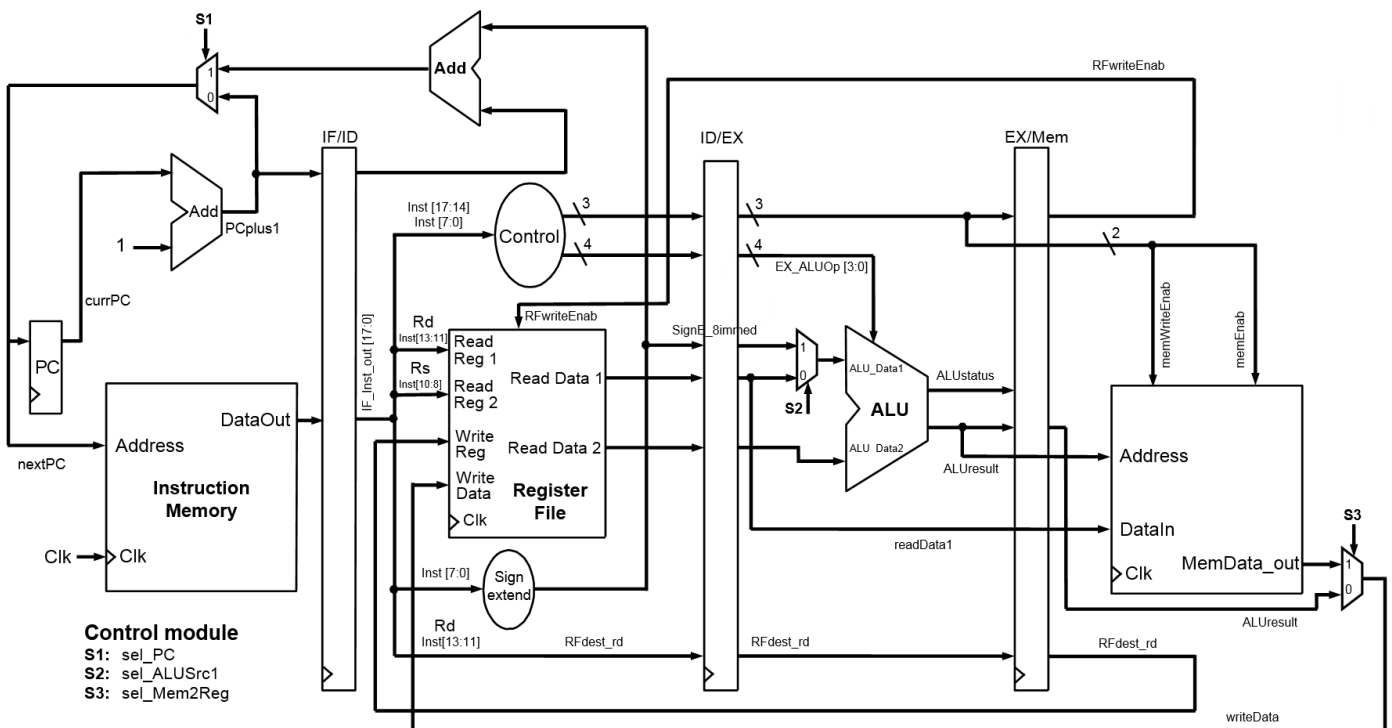

Figure 1: uP16 Block Diagram
The uP16 is a 16-bit processor, and in Lab 4, a basic 5-stage pipelined implementation without data forwarding is introduced. It supports only full-word memory accesses (byte-level accesses are not supported). The Program Counter (PC) is 16 bits wide and holds the address of the next instruction to be fetched from memory. After each instruction is executed, the PC increments by 1. When the processor is reset, the PC is initialised to 0. The uP16 processor does not include any interrupt handling mechanism. A block diagram of the uP16 architecture is provided on the final page of the lab manual as Figure 1.
Examine the Verilog source files *IF_stage.v*, *ID_stage.v*, *EX_stage.v*, and *Mem_stage.v*. As illustrated in Figure 1, the uP16 processor does not include a separate Write-Back (WB) stage; instead, register write-back occurs on the clock edge at the end of the Memory (Mem) stage.
6. Simulate the design. **Check that the default simulation radix is hexadecimal** (Select the settings icon at the above-right of the black waveform window). Zoom out till you can just see the digits in *IF_inst_d*. Observe that after *Rst* is de-asserted, the program counter (PC), *IF_currPC*, increments from 0000 each clock cycle. Also note that the processor instruction, *IF_inst_d*, which is read from the instruction memory (addressed by the PC), is one clock cycle later, as it is actually from the IF/ID pipeline register (see figure 1).
10. Next, scroll (and click) at 245ns. PC=0x000F is the first sw instruction (sw r4, r1, #0), which stores the contents of RF4 (0xF971) into the memory location pointed to by the sum of RF1 (0x0001) and the offset (0x00). Observe that the two memory enable, address, and data signals have the expected values and are active 2 cycles later. A two-cycle delay (rather than the expected 3 cycles) is correct, as Figure 1 shows that these signals are generated in the EX stage and bypass the EX_Mem pipeline register. But the memory is synchronous (clocked), and the write occurs on the next clock cycle (as indicated by the data on the Data_out signal appearing one clock cycle later).